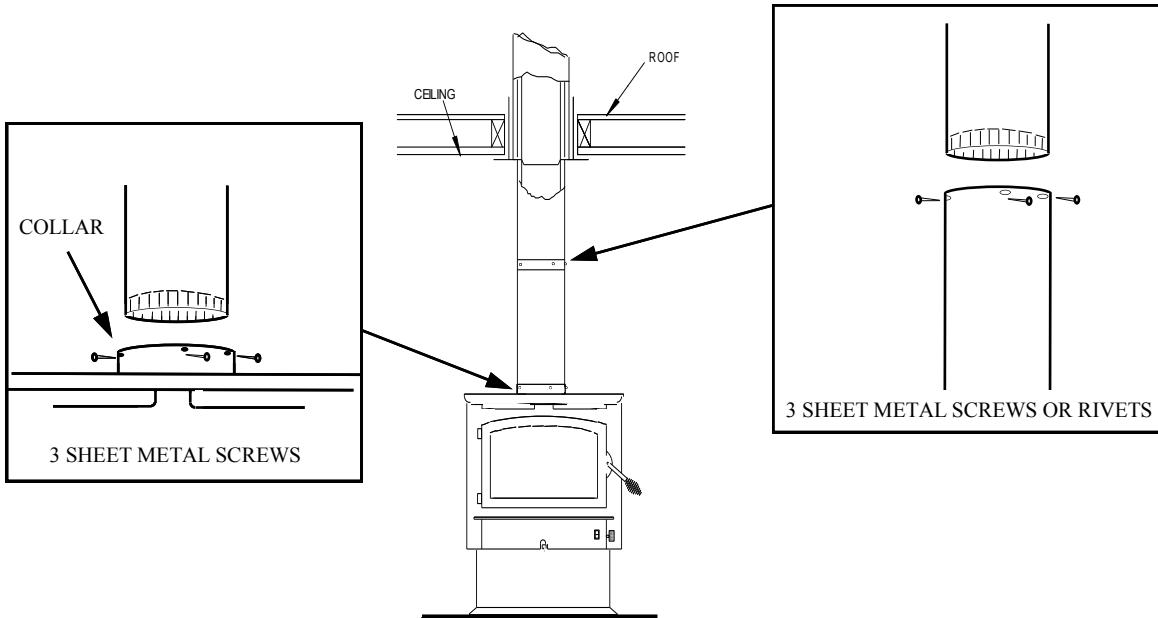

Figure 14
1. Suspend a plumb bob from ceiling above unit so that weight is hanging in center of flue exit. (A small weight on a string will serve as a plumb bob). Mark ceiling where string is suspended to locate center of chimney. (See Page 16, Figure 14).
Now connect stove and ceiling support box using #24 ga. minimum blue or black steel connector pipe (**DO NOT USE GALVANIZED PIPE**). Connect each section so crimped end faces downward and secure each section to each other using at least three (3) sheet metal screws or rivets. Also use three (3) sheet metal screws to fasten pipe to collar on heater. (See Page 16, Figure 14).
5. Connect chimney connector to tee-box using #24 ga. minimum blue or black steel connector pipe. **DO NOT** use galvanized pipe. Connect each section so the crimped end faces downward and secure each section to each other using three (3) sheet metal screws or rivets. (See page 15 Figure 14).
- Secure each section to each other using at least three (3) sheet metal screws or rivets. (See Page 15, Figure 14).
- Use three (3) sheet metal screws to fasten pipe to connector collar on heater. (See Page 15, Figure 14).